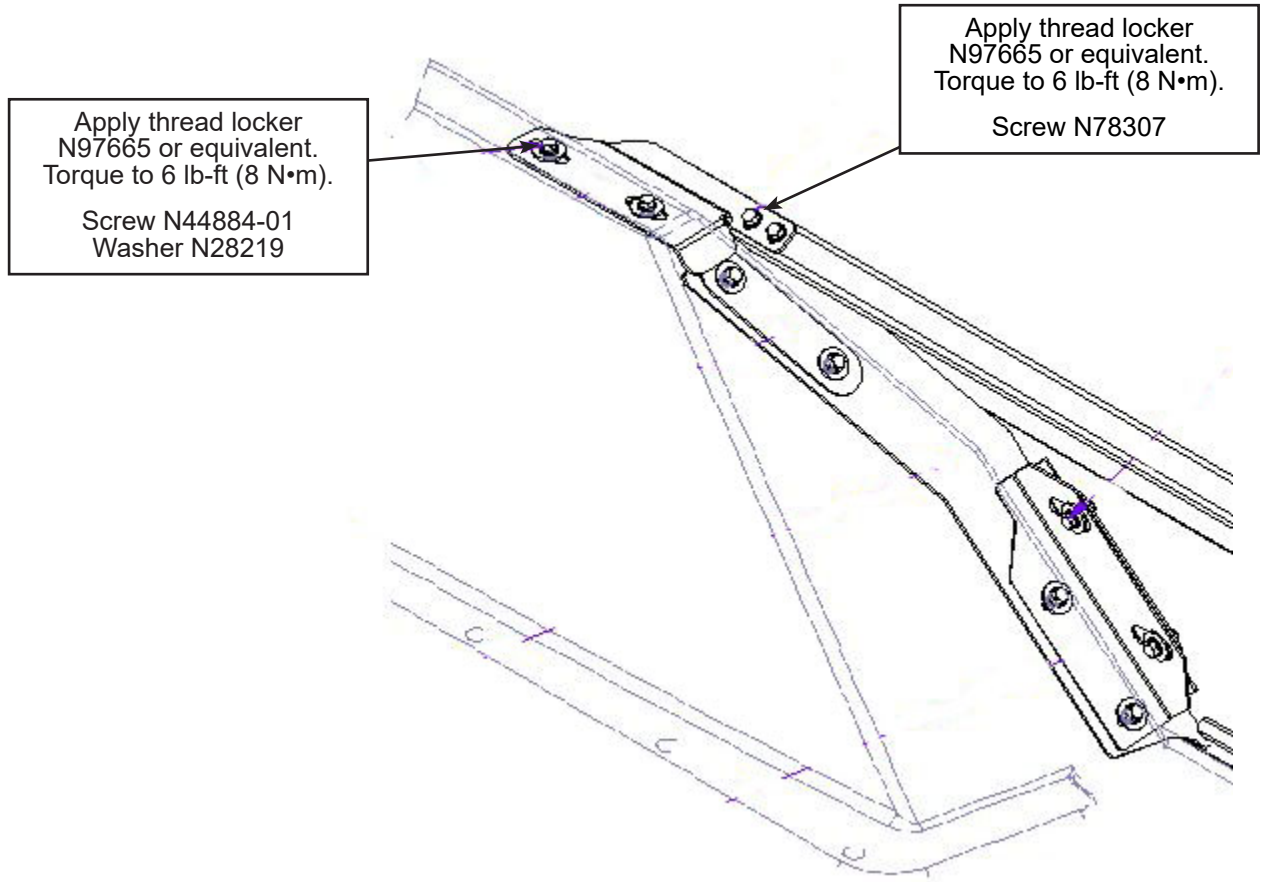

Figure 2 - New Bracket Installation (Typical on Both Side)
- 1.5. Install the new bracket and hardware (see figure 2).